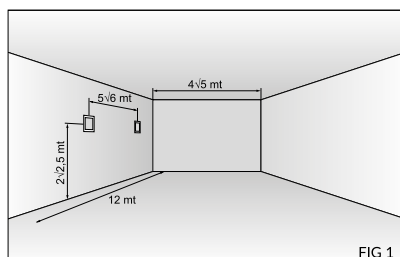

FIG 1
- **Rotation lock screw:** Use the hexagonal wrench to loosen the rotation lock screw (A), then set the speaker to the desired angle (da 0° a 45°) and retighten securely.
- **Joint screw:** Using the hexagonal wrench to loosen the joint screw (B) (fig.1), set the speaker to the horizontal desired angle and then retighten the joint screw.